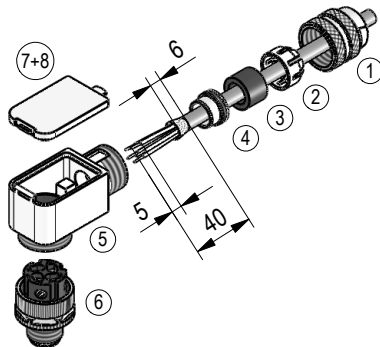
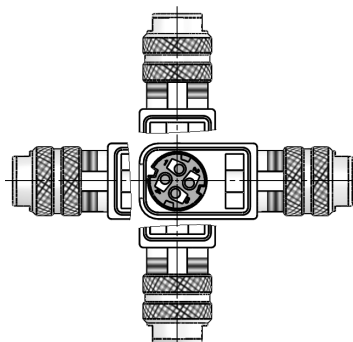

Fig. 7: Right angle mating connector M12
Fig. 8: Angled positions
- Accessory SIKO art. no. "87600" M12 D coded (plug pin 4 pole Ethernet Port 1 (IN) + Port 2 (OUT)) (**Fig. 7** + **Fig. 8**).
Mounting (**Fig. 7**)
Changing the angle position (**Fig. 8**)